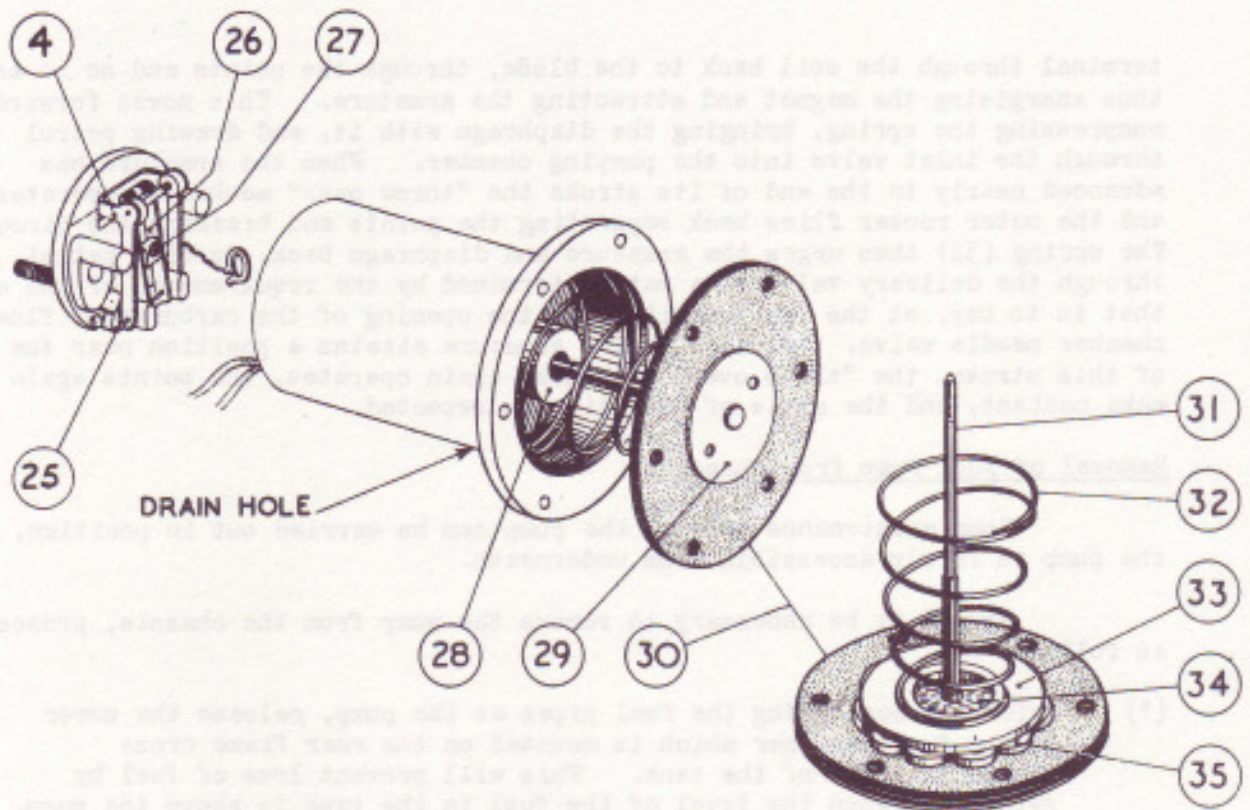

FIG. 3. SHOWING CONTACT MECHANISM AND DIAPHRAGM ASSEMBLY.
The spaces between the valves of each valve assembly are separate, and each is connected by a passage to one of the pumping chambers, which are shallow depressions in the main faces of the body. The spaces within these depressions are each closed by one of the diaphragm assemblies (30 Fig. 3) which is clamped between the magnet housing (17) and the body, and in the centre between the brass plate (29) and the steel armature (33). A bronze rod (31) is screwed to the centre of these and passes through the magnet core to the contact breaker which is located at the far end. The magnet consists of a cast-iron pot having an iron core (28), on which is wound a copper wire coil which energises the magnet. Between the magnet housing and the armature are eleven spherical-edged brass rollers (35). These locate the armature centrally within the magnet at all times and allow freedom of movement in a longitudinal direction.